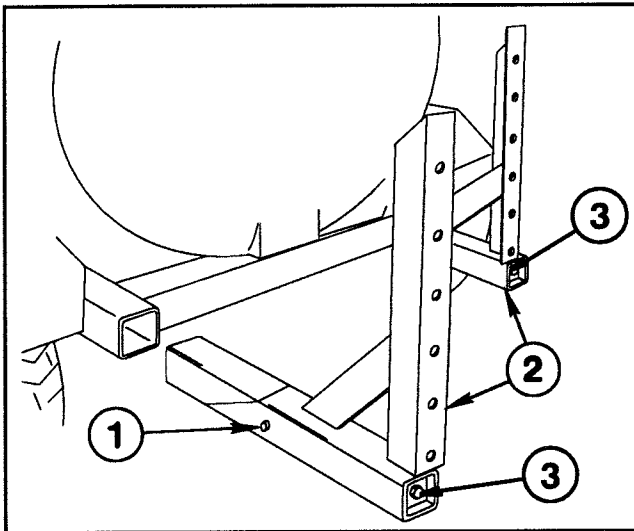

Figure 1
1. Apply a heavy coating of grease to the tubes of the two Boom Mount Assemblies and insert them into the Vehicle Frame as shown in FIG. 1.